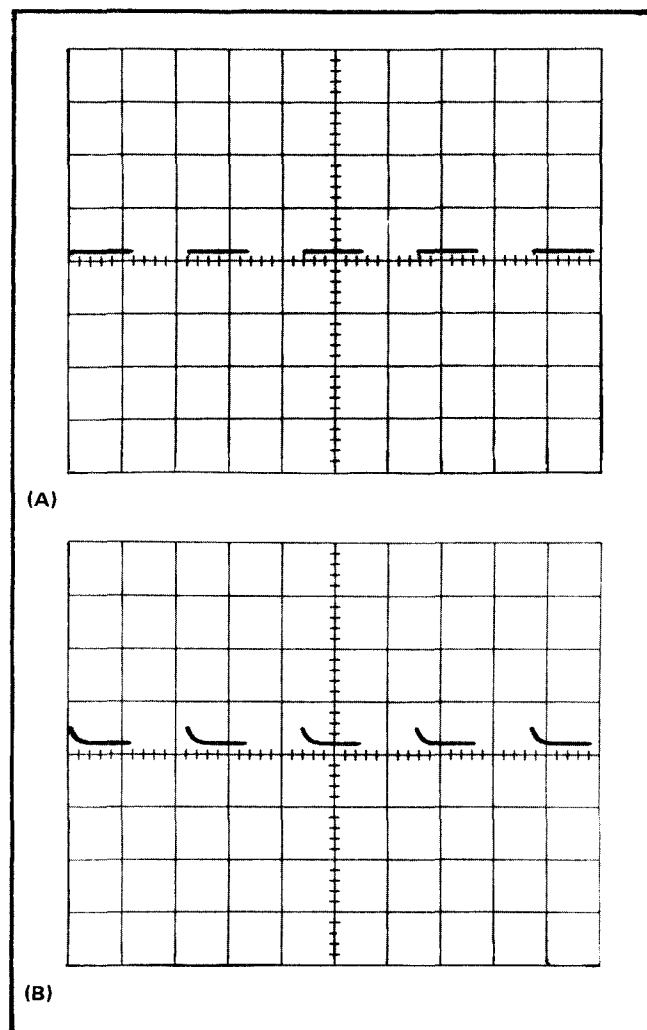

Fig. 5-2. Typical waveform showing (A) Cross neutralization properly adjusted, (B) incorrectly adjusted.
b. Check—The upper leading corner of the waveform, and note any aberration that occurs while switching the -INPUT AC-GND-DC switch from GND to DC. The waveform should appear similar to the one in Fig. 5-2. The aberration should not exceed  $\pm 1\%$ .
c. CHECK—The lower leading corner of the second cycle of the display and note any aberration that occurs while switching the +INPUT AC-GND-DC switch from GND to DC. The bottom leading corner of the waveform should appear similar to the one shown in Fig. 5-2. The aberration should not exceed  $\pm 1\%$ .